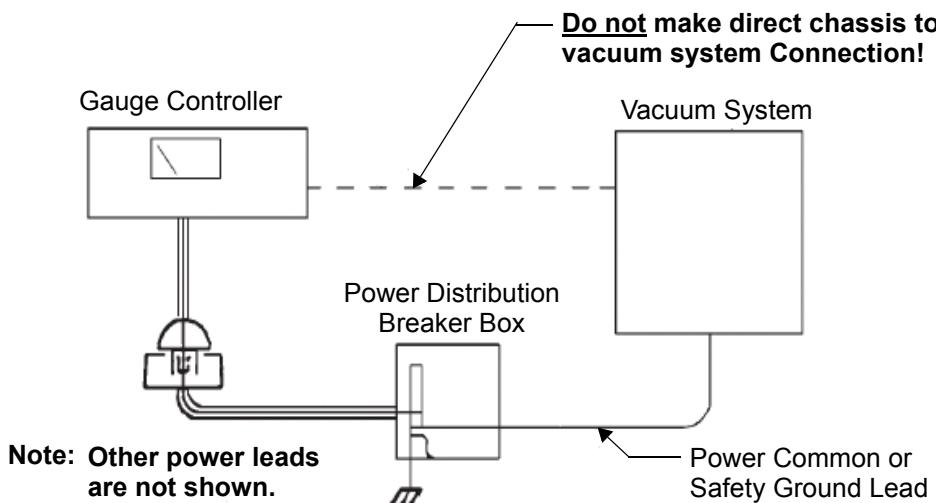

Figure 1 Ion Gauge and Vacuum System Connections
- Make absolutely sure that the vacuum system is grounded as shown in Figure 1.